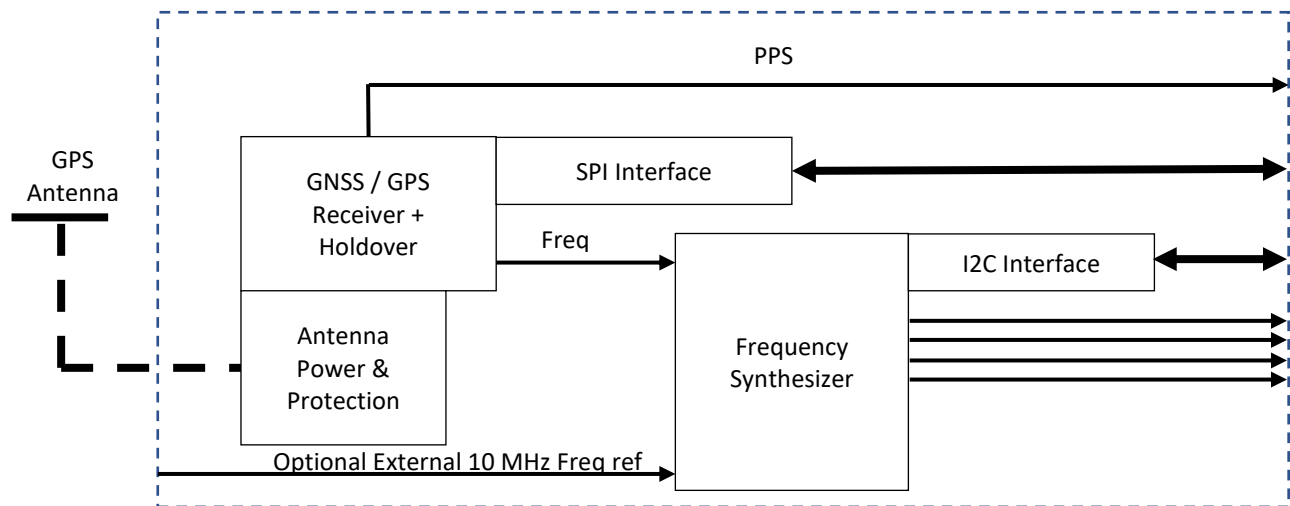

Figure 1. Block Diagram of Clock Module
The Personal Space Weather Station (PSWS) Clock Module provides GPS derived time and frequency for input to the PSWS TangerineSDR receiver Data Engine (DE). It is a low cost module that provides a high accuracy pulse-per-second (PPS) timing strobe, high-accuracy UTC time, and programmable frequency synthesizer outputs derived from a GPS disciplined oscillator. The four synthesizer outputs have phase noise performance that meets the needs of the PSWS receiver. The module is intended to be programmed from the DE, and to provide timing and frequency signals to the DE. Figure 1 is a block diagram of the Clock Module.